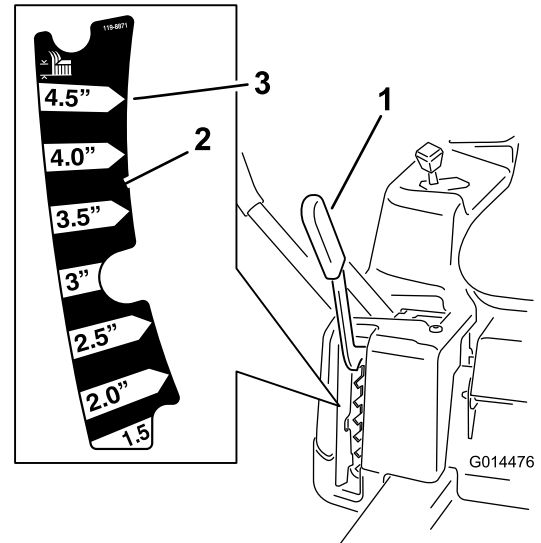

Figure 9
3. Raise the height-of-cut lever to the transport position, cutting height position 4.5 (also the 4-1/2 inch [115 mm]) (Figure 9).